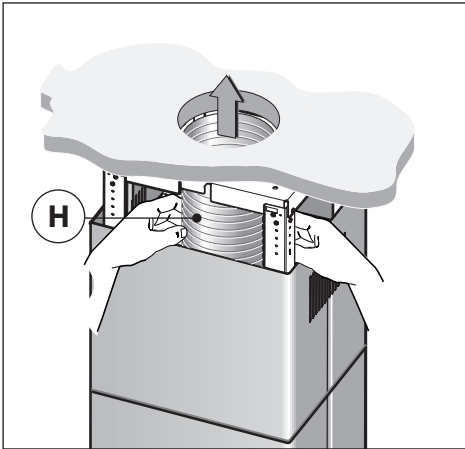

Fig.10
- **Suction version:** Fix the flexible tube to the pre-arranged air exhaust hole (Fig.10).